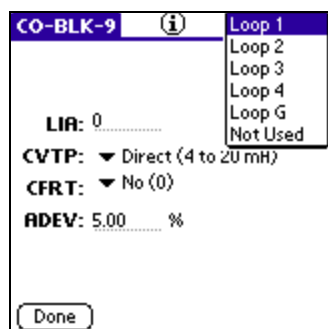

Figure 10
- Select which Loop this block should be in. (Figure 10)